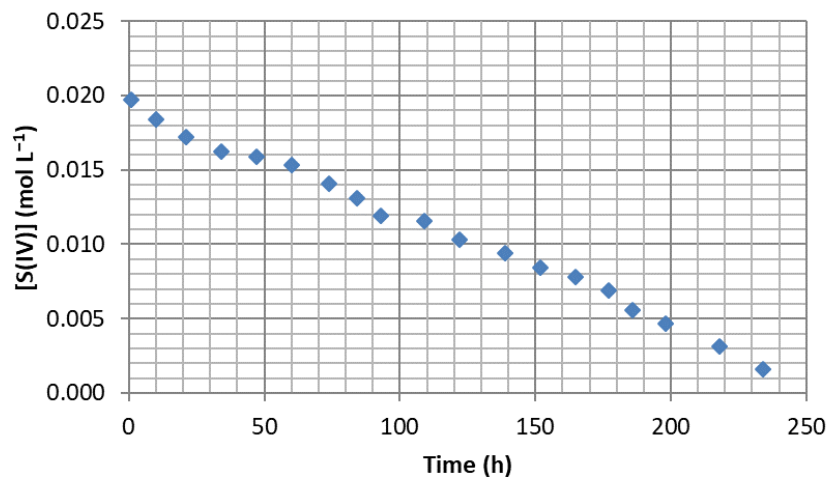

Figure 1: [S(IV)] as a function of time for the fructose - glycine - sodium metabisulphite S(IV) reaction
The first experiment (A) was carried out by adding  $n_{\text{Fru,A,0}} = 1 \text{ mol}$  of fructose,  $n_{\text{Gly,A,0}} = 0.5 \text{ mol}$  of glycine and  $n_{\text{S(IV),A,0}} = 0.02 \text{ mol}$  of **S(IV)** at the same time to a 1 L sodium acetate/acetic acid buffer. Every 15 hours (roughly), an aliquot of 1 mL was extracted from the reactive medium, put in a cell of  $l = 1 \text{ cm}$  and a drop of Ellman's reagent was added. The absorbance was measured after stirring. Results obtained from this experiment are shown in figure 1.
4. **Choose** a wavelength to measure the absorbance of the aliquots of experiment (A).